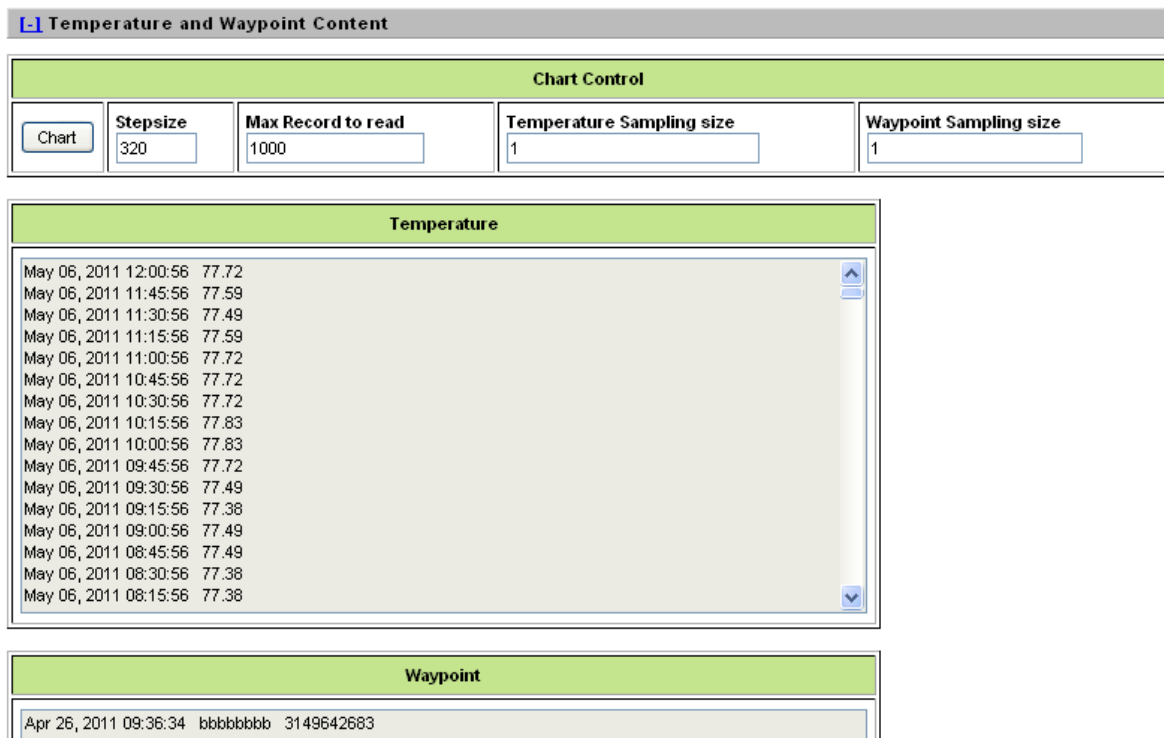

Figure B-2.6 Tag and Waypoint Content
13. Select step size of 320, max records to read as 0, temperature Sampling size = 1 and Waypoint Sampling Size=1. Click on the Chart Button. This will read the entire memory and show all the temperature and waypoint samples logged so far. (Figure B-2.6)